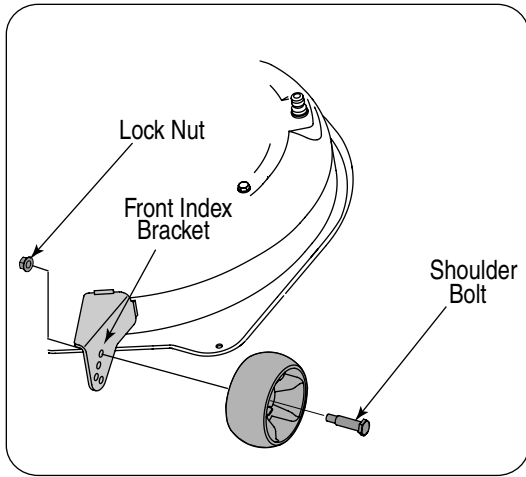

Figure 6-8
- Remove the shoulder bolt securing one of the front ball wheels to the front index bracket. Reposition the ball wheel to align with the one of four index holes that places the wheel 1/4" to 1/2" above the ground. Secure the ball wheel to the index bracket with the shoulder bolt. Note the index hole used and secure the other ball wheel in the same position. See Figure 6-8.